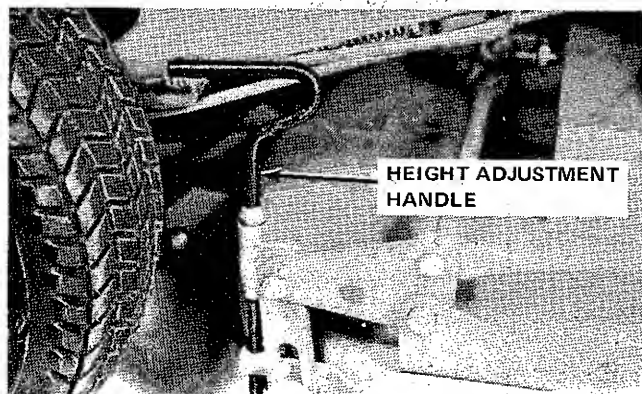

Figure 5-1. Cutting Height Adjustment
A. Raise or lower entire mower by twisting height adjustment handle (Figure 5-1) until front of blade is at desired cutting height. Clockwise to raise blade and counter-clockwise to lower.